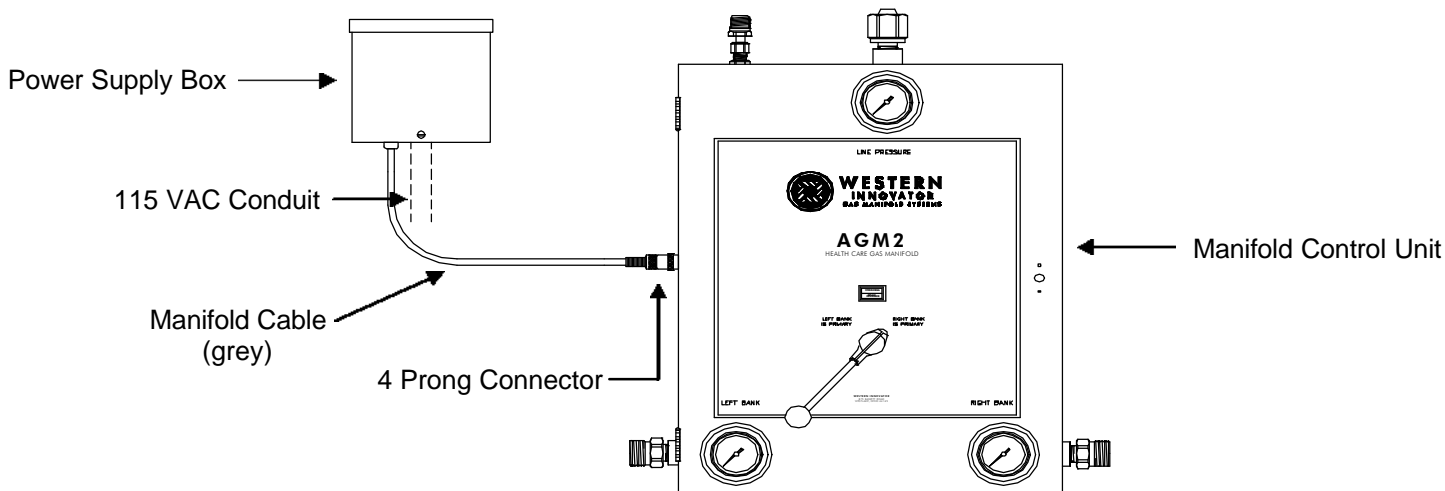

Figure 8
1. A 24 VAC power supply transformer is furnished with the manifold control unit. Mount the box onto the wall, to the left of the manifold, with the top edge approximately aligned with top of the control unit. The attached control cable terminates in a 4 prong plug matching a receptacle on the left side of the control unit, (Figure 8).